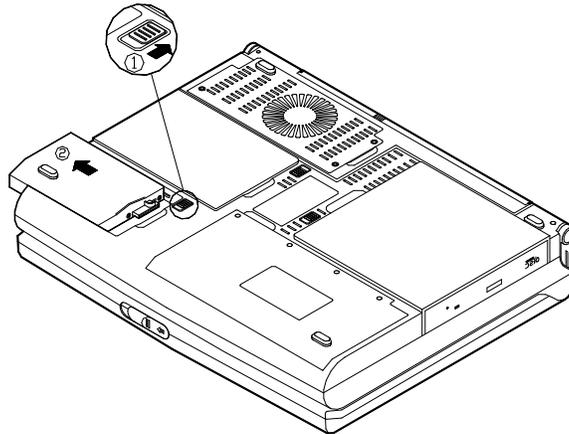

Figure 2-10
4. Press the latch in the direction indicated and slide the hard disk drive out of the Notebook (Figure 2-10).